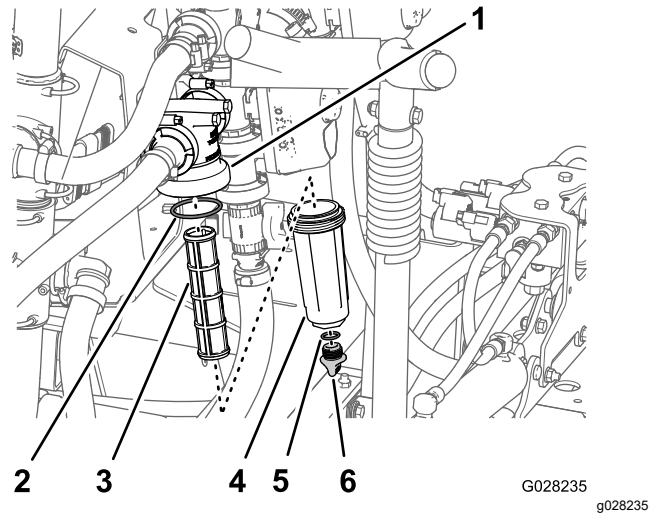

Figure 52
2. Align a drain pan under the pressure filter (Figure 52).
3. Rotate the drain cap counterclockwise and remove it from the bowl of the pressure filter (Figure 52).
4. Rotate the bowl counterclockwise and remove the filter head (Figure 52).
5. Remove the pressure filter element (Figure 52).
inside the filter head) for damage and wear (Figure 52).
8. Install the pressure filter element into the filter head (Figure 52).
9. Install the bowl onto the filter head, and tighten by hand (Figure 52).
10. Assemble the drain cap onto the fitting at the bottom of the bowl, and tighten the cap by hand (Figure 52).